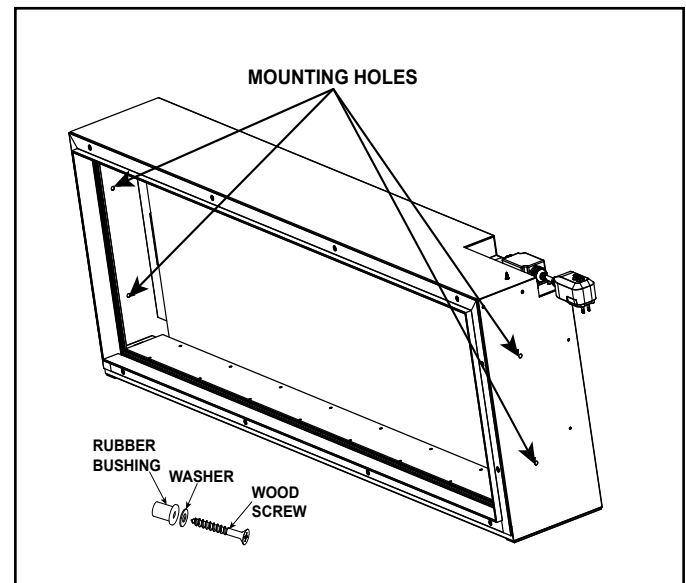

Figure 4.6
4. With the appliance in place, leveled and plum, attach it to the framing using 4 sets of the provided rubber bushings, washers, and wood screws through the appliance mounting holes. See Figure 4.6.